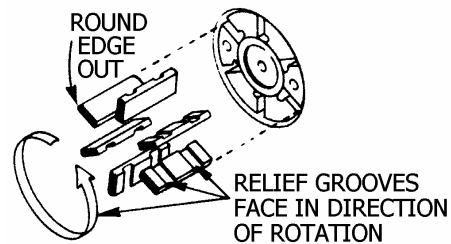

Figure 5 – Vane Replacement
- a. Install the pushrods and the 2 (or 3) bottom vanes into the rotor. The rounded edge of the vanes must be outward to contact the bore of the cylinder and the relief grooves facing in the direction of rotation. See Figs. 5 and 9